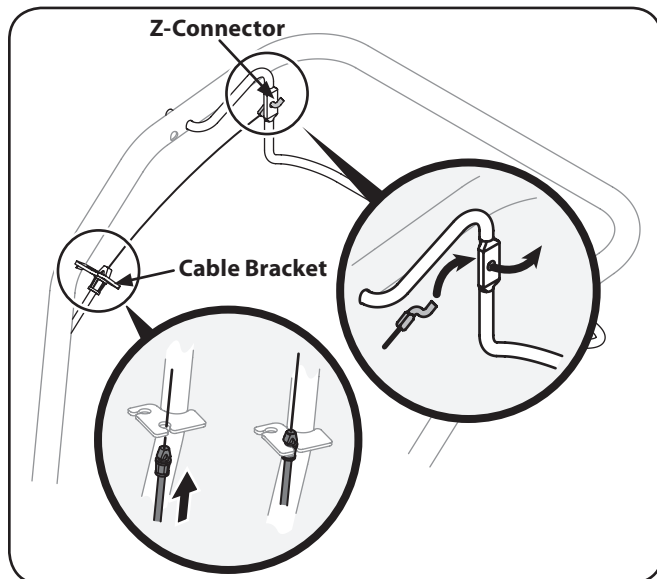

Figure 3-6
- Carefully unwrap the forward clutch cable from its shipping position. Pull the cable up through the bottom hole of the cable bracket and push the cable connector up through the hole until the groove in the connector snaps into place. See Figure 3-6.
- Place the Z-connector into the hole in the forward clutch bail from the outside of the bail to the inside. See Figure 3-6.